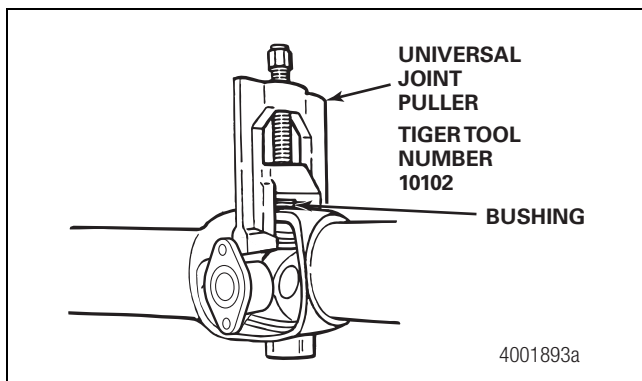

Figure 3.1
3. Remove the first bearing cup. If necessary, use a bearing puller to remove the bearing cup from the yoke bore. Figure 3.1.